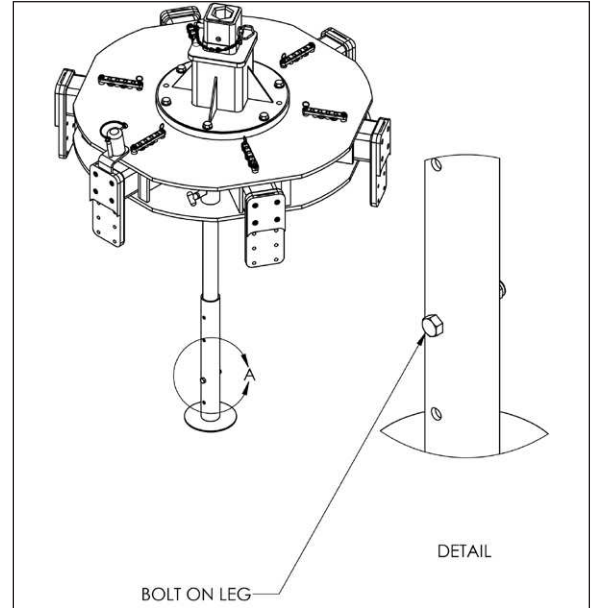

Figure 7. Loosening Bolt On Supporting Leg
6. Loosen and remove the nut and bolt from the base of the Supporting Leg. Repeat for each leg. See Figure 7.